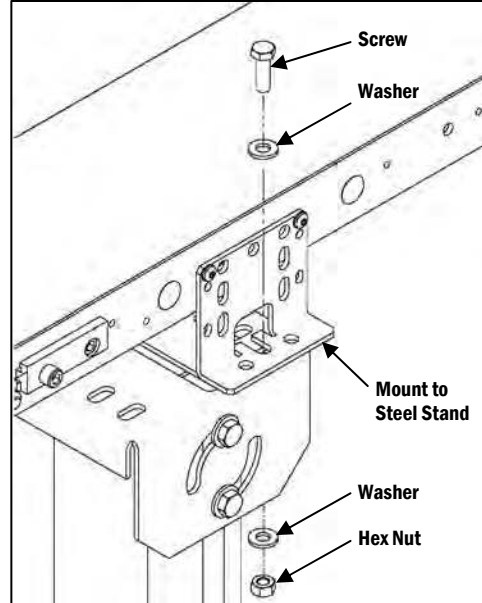

Figure 3
- a. Using the fasteners provided, insert a 5/16-18 x 3/4" Hex Head Screw through a 5/16" Flat Washer and into the slot in the base of the mount (**Figure 3**).